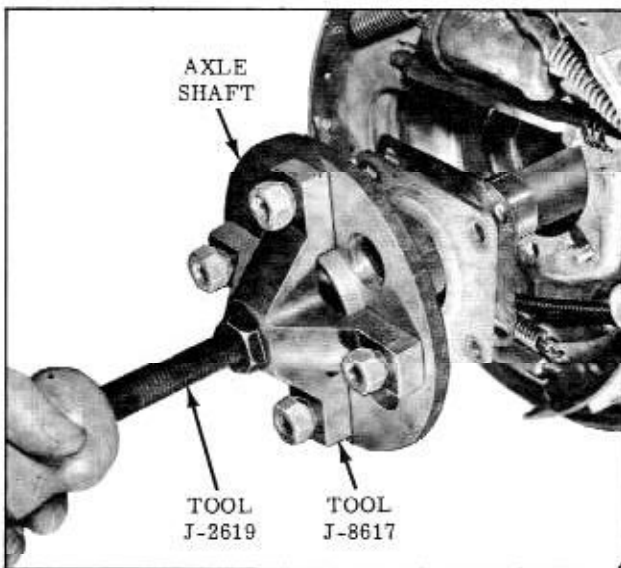

Figure 6-25 Removing Axle Shaft
3. Attach Puller J-2619 with Adapter J-8617 and pull axle from housing. Care must be taken not to loosen backing plate from housing as it may damage brake line. (Fig. 6-25)